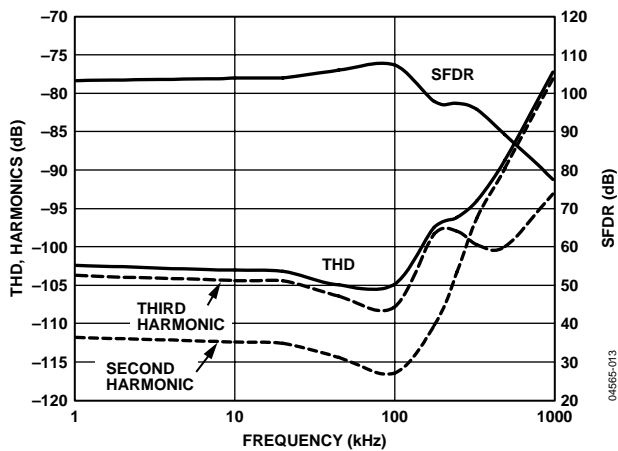

Figure 13. THD, Harmonics, and SFDR vs. Frequency
- The driver needs to have a THD performance suitable to that of the AD7621. Figure 13 gives the THD vs. frequency that the driver should exceed.